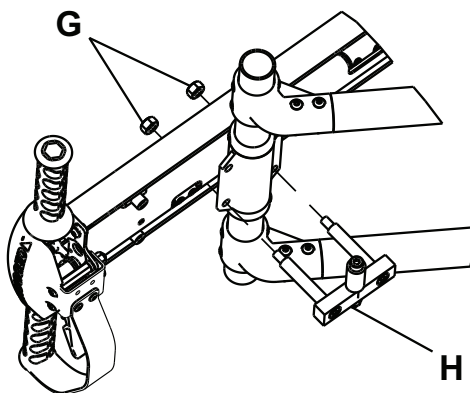

Figure 8 – Roller assembly
8. Using an M6 Allen key and an M13 spanner, install the supplied roller assembly (H) and nuts (G) on the slide tube support (Figure 8).